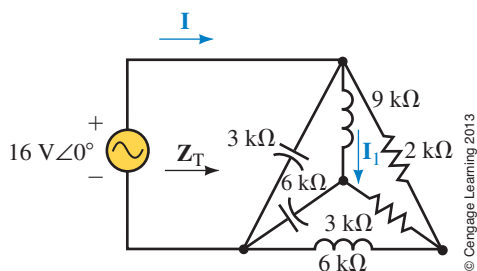

FIGURE 19-69
27. Refer to the circuit of Figure 19-69: